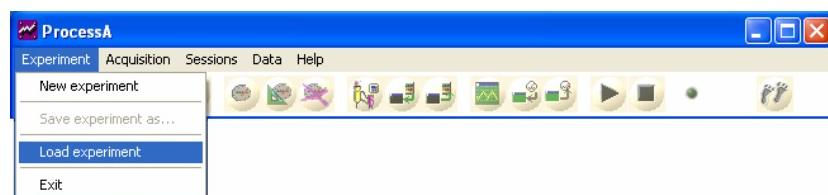

Figure 5-20
- In Process@ functions bar, select “Experiment / Load Experiment” (Figure 5-20)